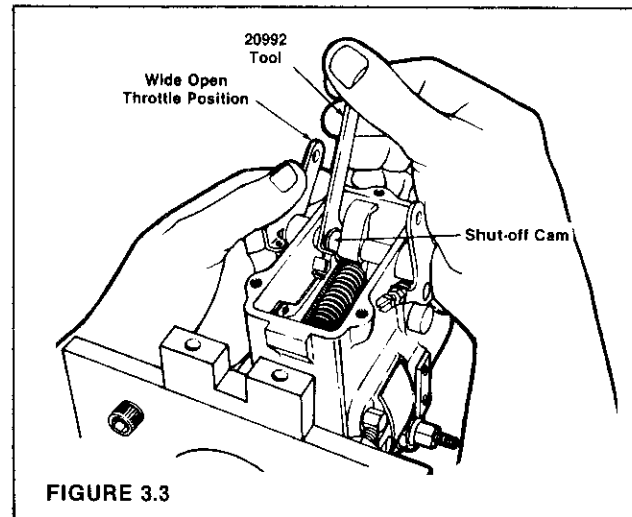

FIGURE 3.3
STEP 3 Remove the shutoff cam by rotating the shutoff lever to the wide open throttle (WOT) position. Place tool, 20992, with tab beneath the shorter leg of the shutoff cam, on the shutoff shaft and pry gently, sliding the cam off the shaft assembly (Figure 3.3). Discard the shutoff cam.